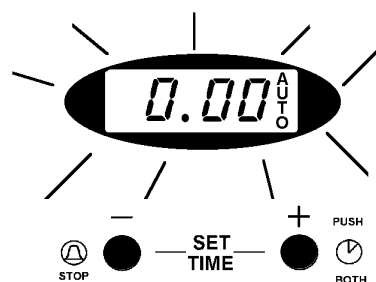
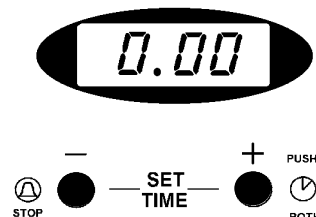

Fig. 2.
Fig. 3.
Release the buttons and 0.00 will appear in the display as Fig. 2. **Within 5 seconds** press button (2). 12.00 will show in the display as Fig. 3.